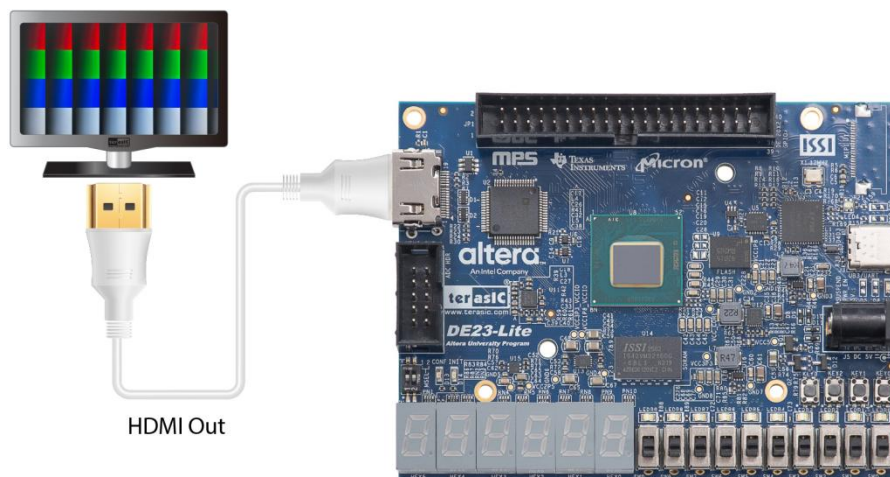

Figure 4-5 Setup for the HDMI_out_RTL demonstration
- Figure 4-5 Setup for the HDMI_out_RTL demonstration Setup for the HDMI_out_RTL demonstration